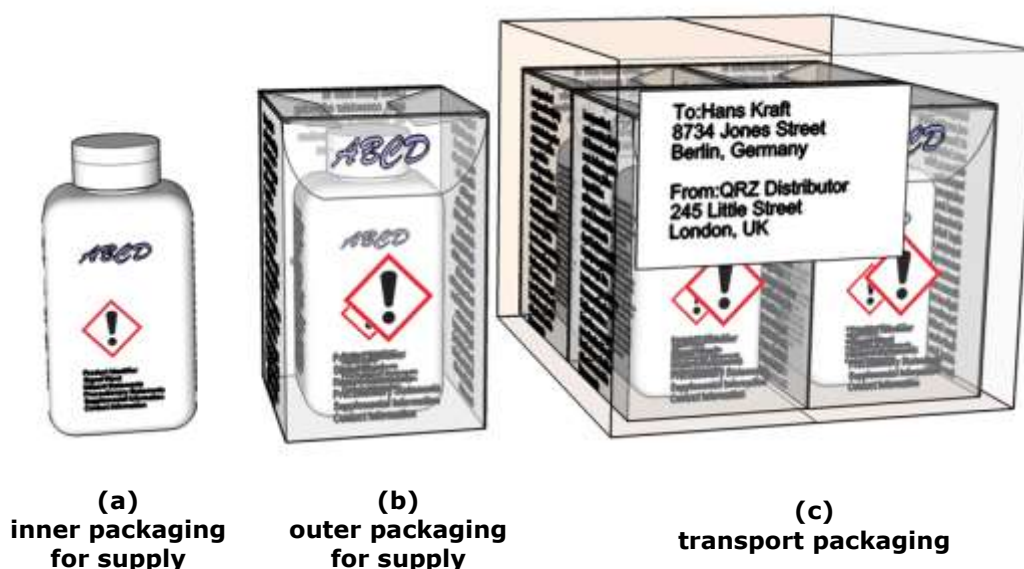

Figure 4: Application of CLP labelling on packaging used for supply and transport
CLP Article 33(2) should be interpreted as meaning that labelling according to CLP is required for the outermost layer of packaging that remains when the transport packaging is removed (and, as the case may be, to the inner and intermediate packaging). This type of 'outer' packaging (illustration (b) in Figure 4) requires a CLP label (see also section 5.3.1.2 and section 5.4.1 of this guidance document).
Normally, suppliers, including distributors, use one and typically more additional layers of packaging to make the transport of multiple chemicals more convenient and to ensure that the correct products are delivered to each location in good condition. Such **transport packaging** (illustration (c) on Figure 4), used for the purpose of: